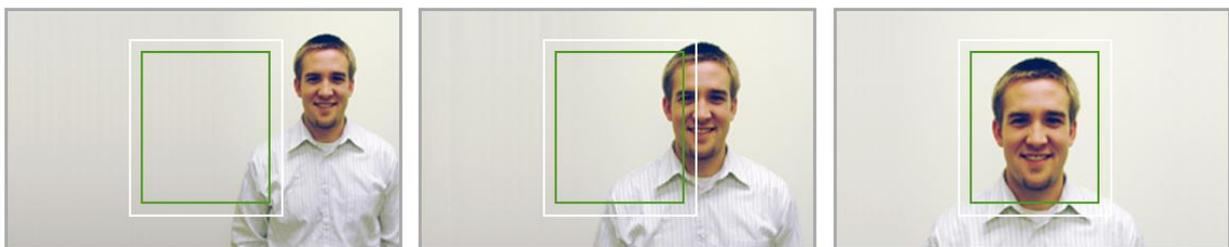

Fig. 3 Face Image Capture Process
- Sample illustrations of face capture modes are shown in Fig. 3.